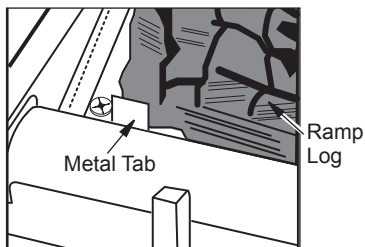
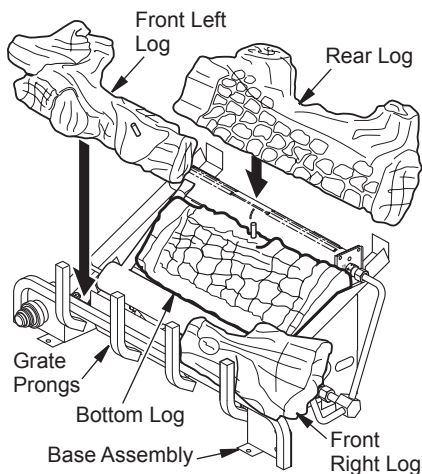

Figure 20 - Installing Log Set
Figure 21 - Installing Log Set
1. Place bottom log in center of the base assembly as shown in **Figure 21**. The log must sit flat on the black metal sheet and behind the left metal tab as shown in **Figure 20**.
2. Rest rear log in back corner sections of base assembly as shown in **Figure 21**. Make sure log is completely vertical and not leaning in toward burner where flame will touch the log.
3. Position front right log against right side of grate prongs (see **Figure 21**).
4. Position front left log against left side of grate prongs (see **Figure 21**).